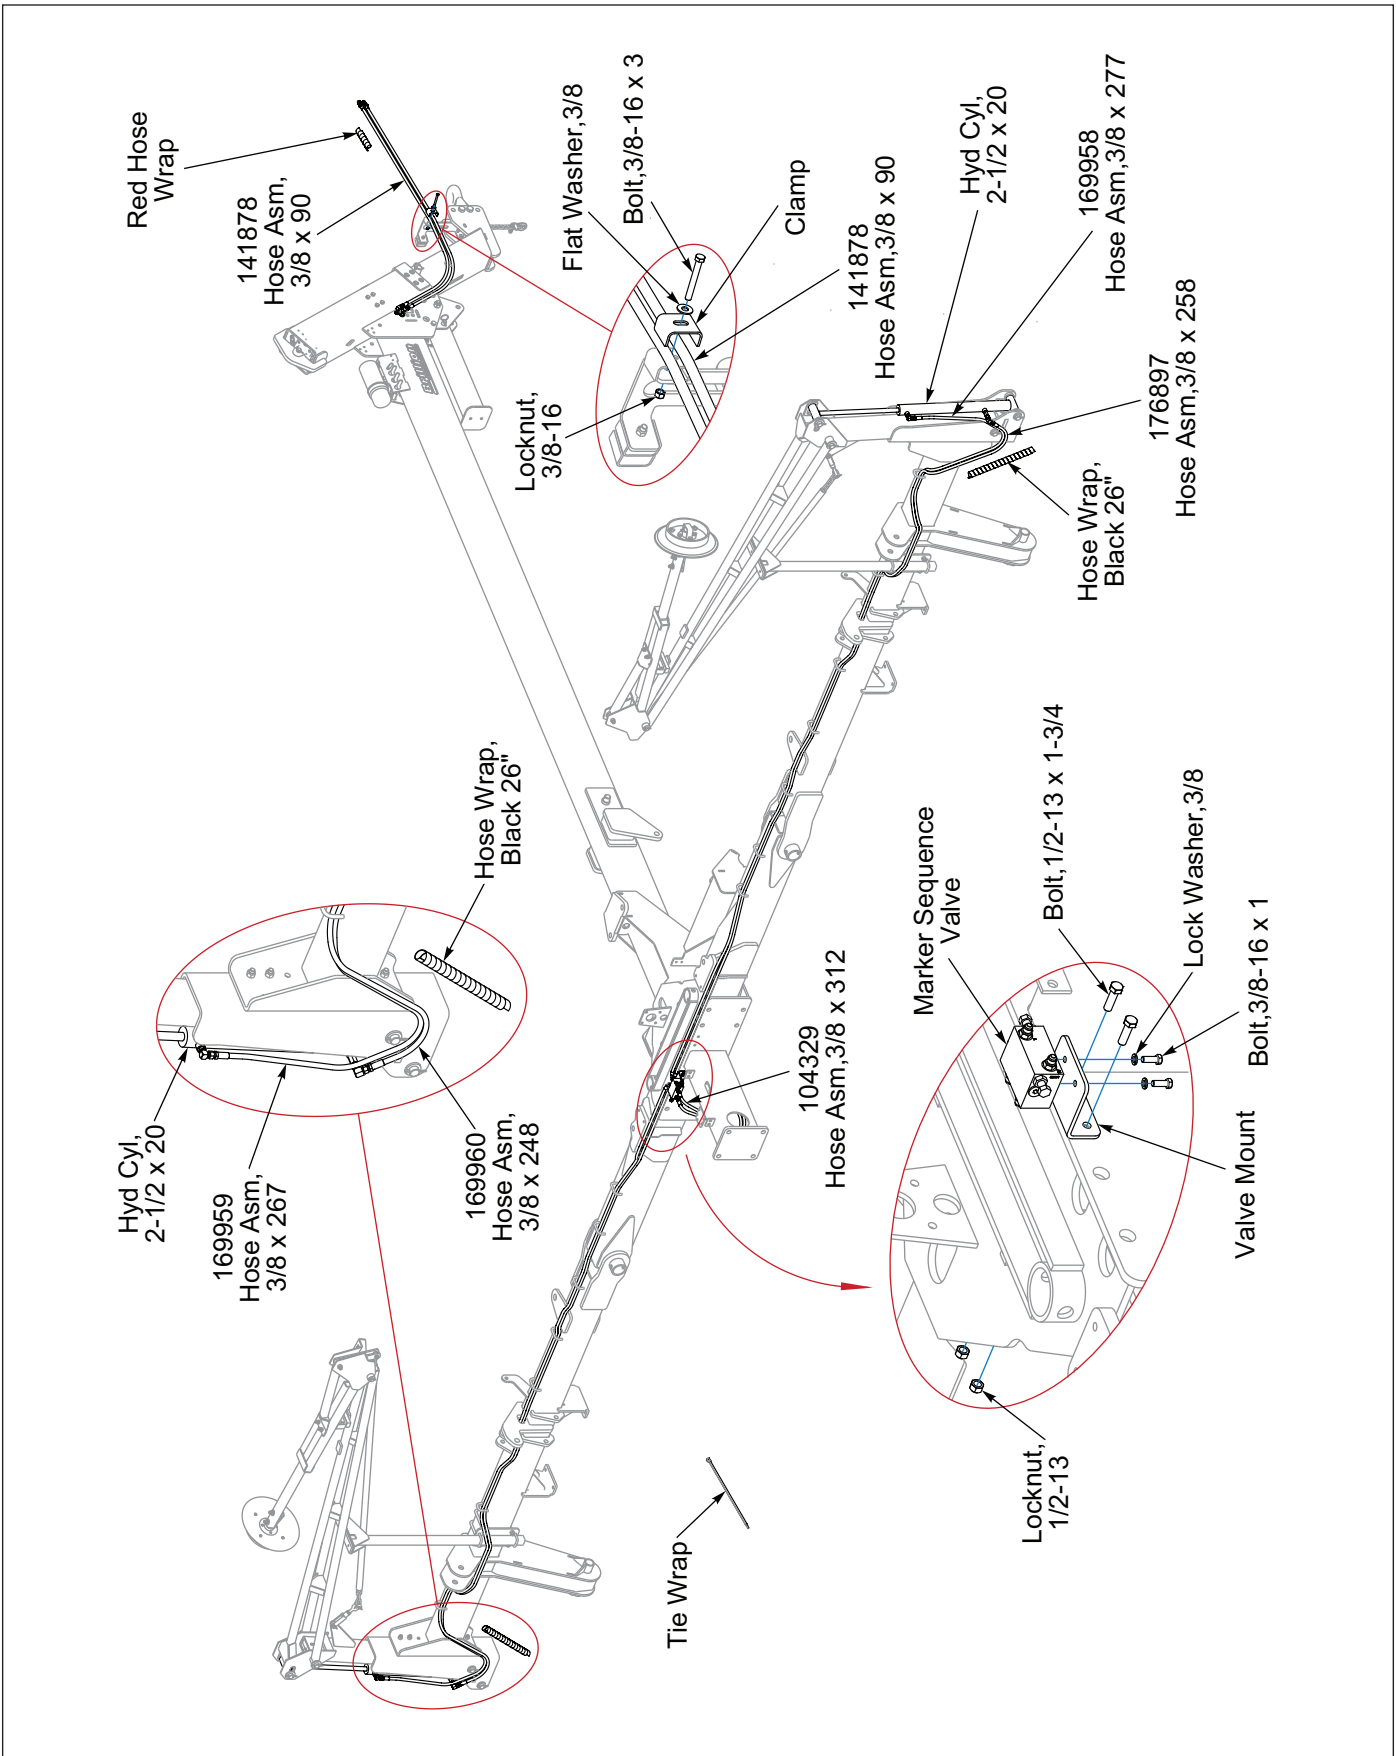

Figure 2-36: Row Marker Hydraulic Layout
1. Attach Valve Mount to the back of the Folding Seeder Hitch Frame with 1/2-13 x 1-3/4 Bolts and Locknuts. **See Figure 2-36.**